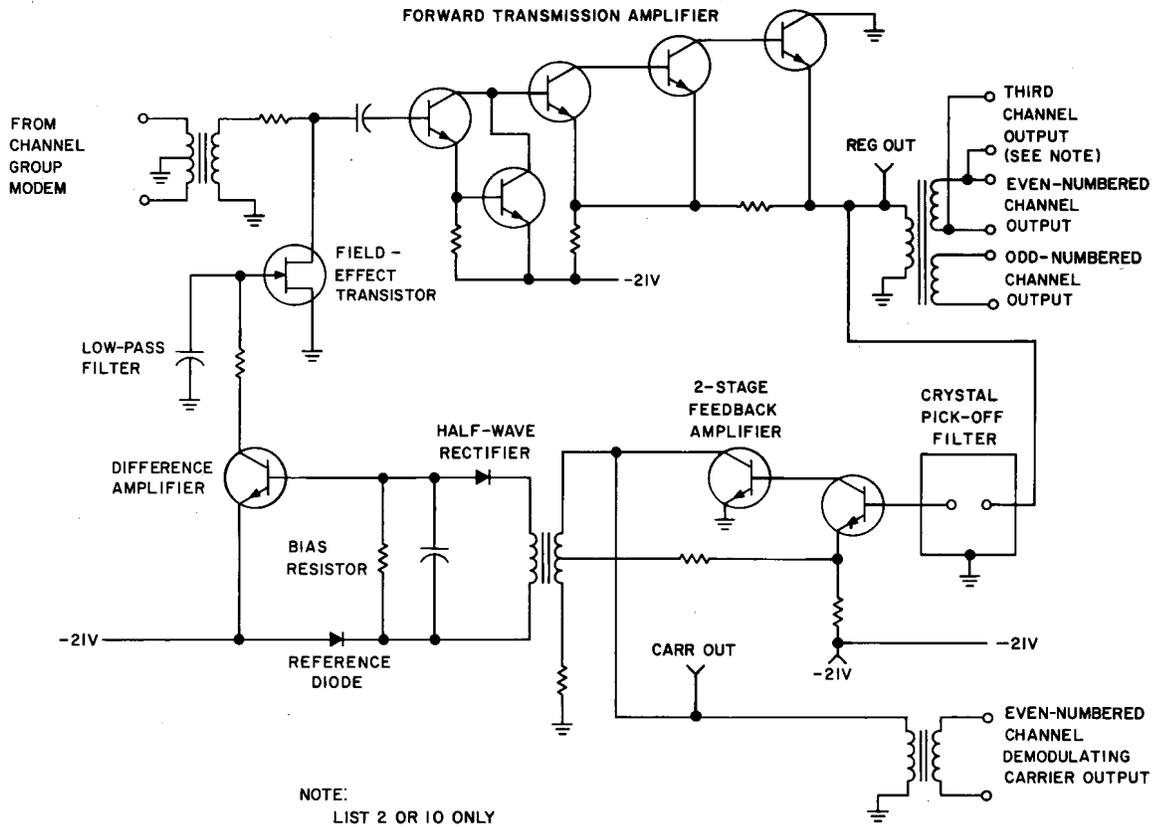
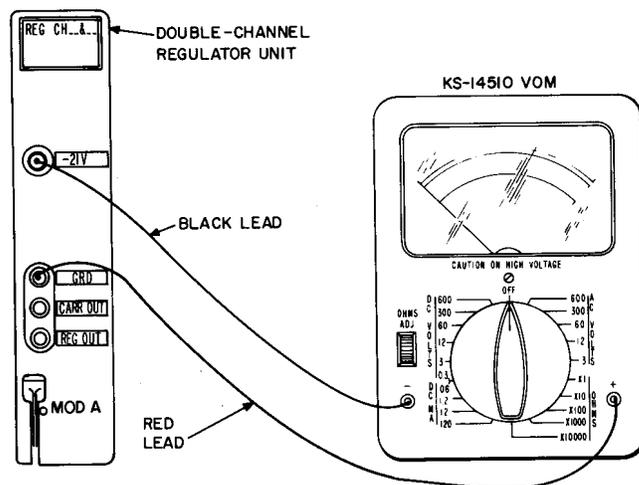

Fig. 1—J99300CA Double-Channel Regulator Circuit—Test Jack Locations
Fig. 2—Measure -21 Volts—Test Setup
The purpose of this section is to provide in-service tests for determining the operating condition of the J99300CA double-channel regulator unit. These tests consist of measuring the dc voltage (Test A) and the output carrier and demodulating carrier levels (Test B). Figure 1 shows the circuit locations of test jacks in the regulator circuit, and Fig. 2 and 3 show the test arrangements.
- 2 Connect the red VOM test lead (+) to the GRD jack and the black lead (—) to the —21V jack of the double-channel regulator under test. (See Fig. 2.)